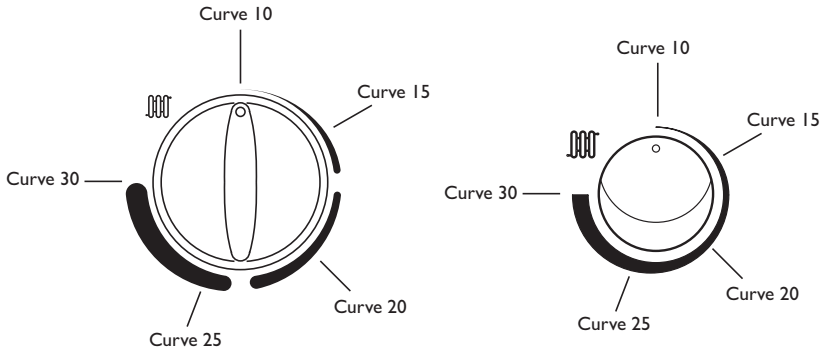

Fig. 12
2. The Central Heating Control Knob should be turned clockwise to the position in Fig. 12 which corresponds with the desired curve as shown on the graph below.